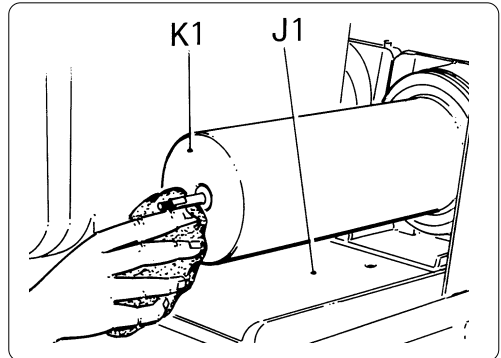

Fig. 36
- k) Clean the drip surface (J1) and the evaporator (K1) properly (fig. 36).